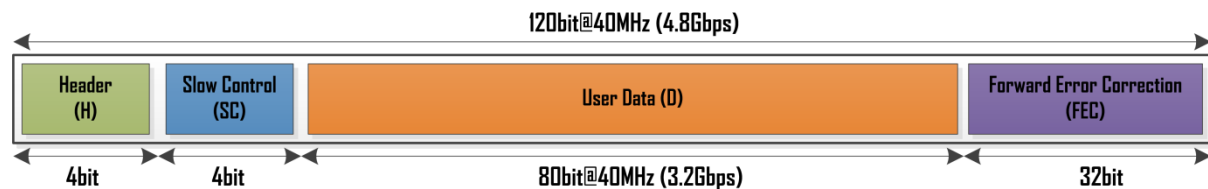

Figure 4: GBT-Frame encoding frame
The **"GBT-Frame"**, shown in Figure 4, adopts the Reed-Solomon that can correct bursts of bit errors caused by Single Event Upsets (SEU). This encoding scheme can be used for Data Acquisition (DAQ), Timing Trigger & Control (TTC) and Experiment Control (EC).